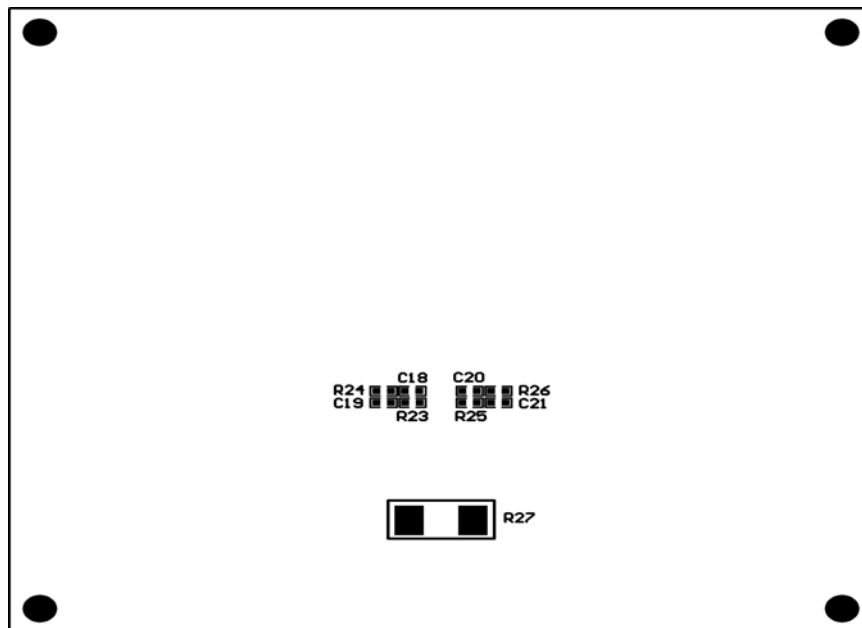

Fig. 6 - Component Placement (Bottom View)
- For paralleled single output operation see Fig. 6 for configuration table in reference design schematic.